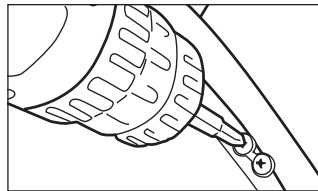

Figure 1
- Remove the two screws on each side that are holding the chinstrap in place. Save all hardware removed for reassembly after TrakLite is installed (Figures 1 and 2).